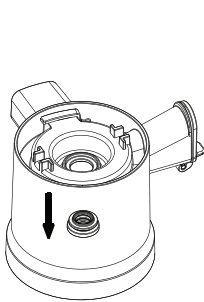

Fig 12a
- Turn the juicing bowl upside down for easier handling. Use your thumb to push the seal ring out (Fig 12a), and clean it with water.